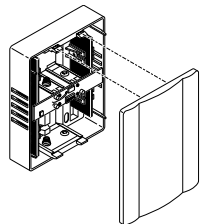

Figure 2
2. Remove chime cover. Pull firmly as shown in Figure 2.